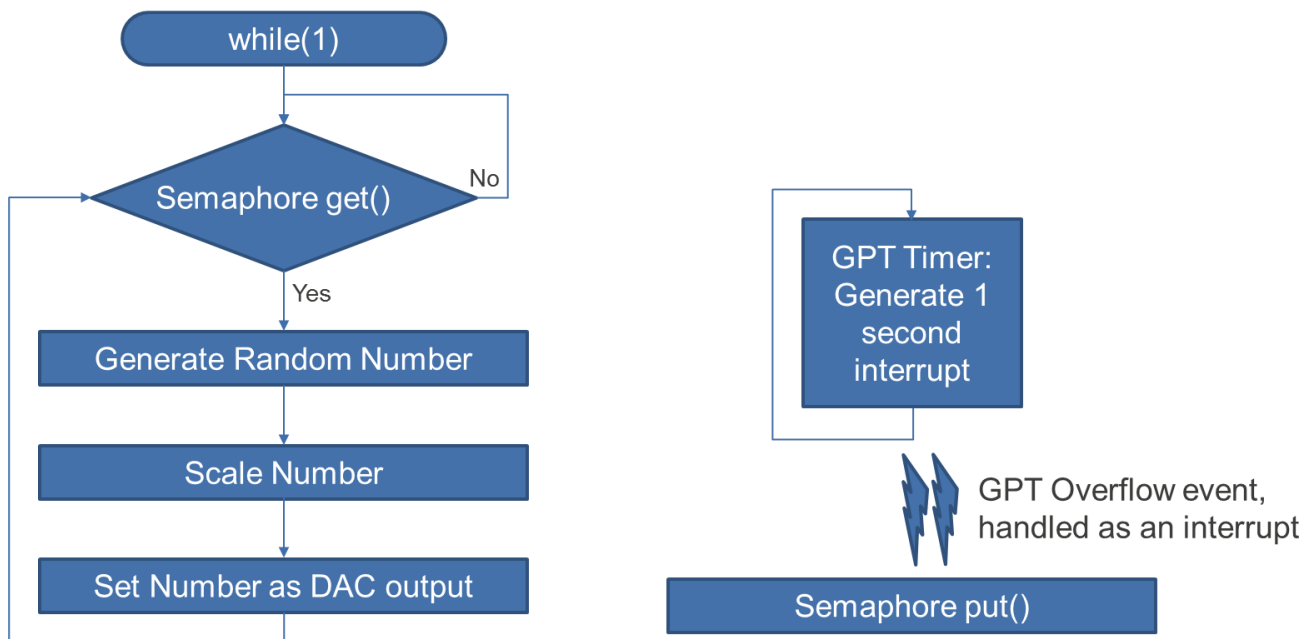

Figure 2.1
If can be seen in *figure 2.1* (page 8) that the while(1) loop of the thread will wait for a semaphore. This ThreadX object is added now.